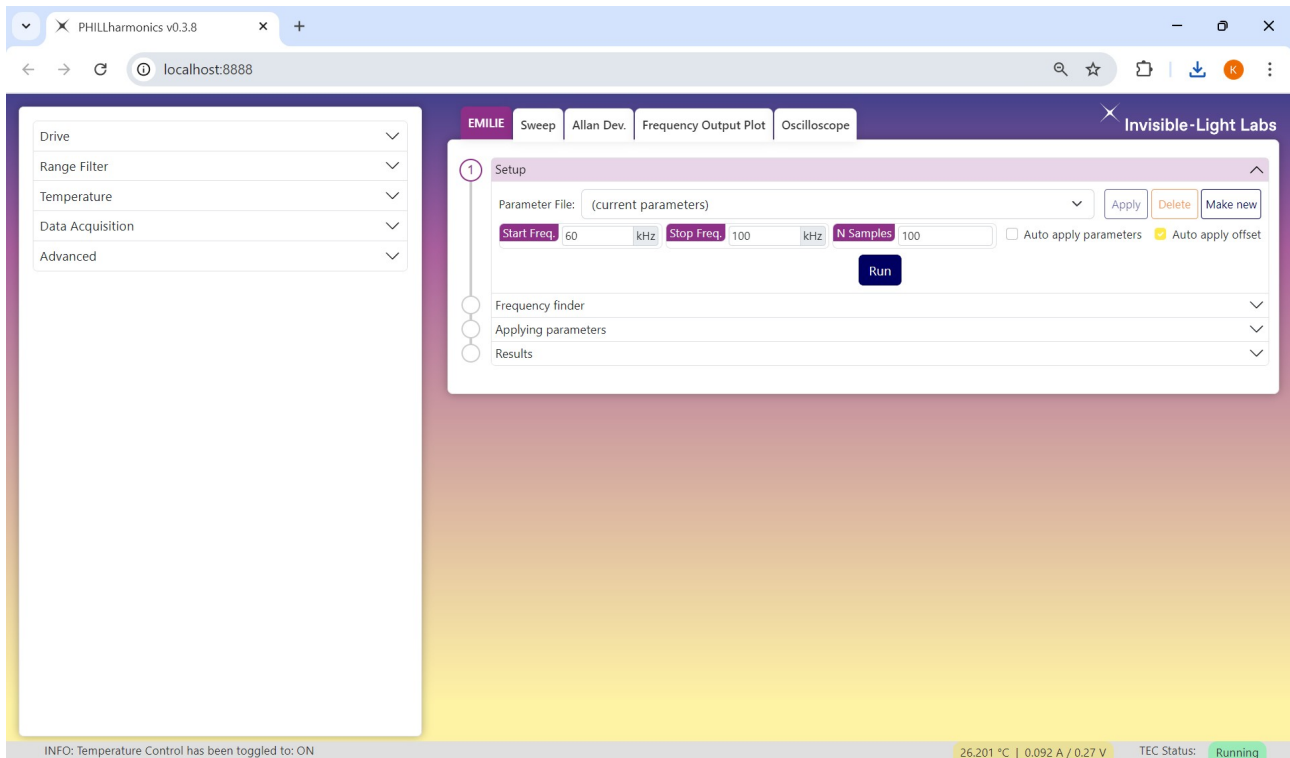

Figure 32: The PHILLharmonics user interface following successful connection
6. Once setup is complete, the PHILLharmonics software interface appears, as shown in Figure 32.